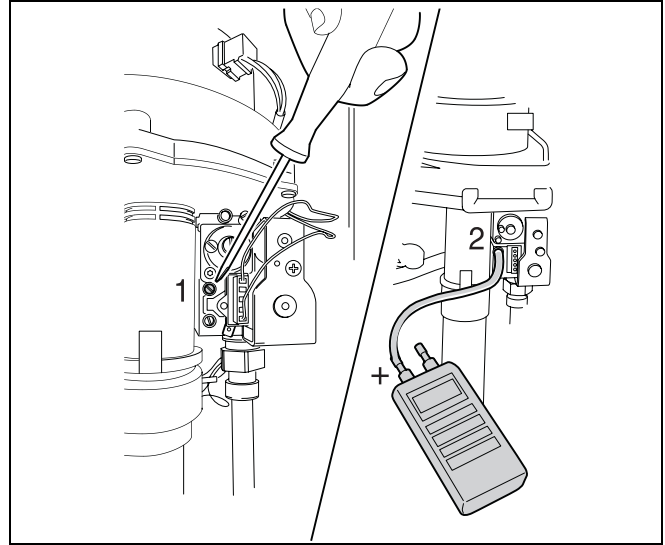

fig. 53 Check the gas/air ratio
- Open the top measuring nipple (see fig. 53, item 1) with two turns.
- Connect a tube from the "+" side of the pressure gauge to burner-pressure testing nipple (see fig. 53, item 2).
- Tighten the screw on the burner-pressure testing nipple (fig. 53, item 1).